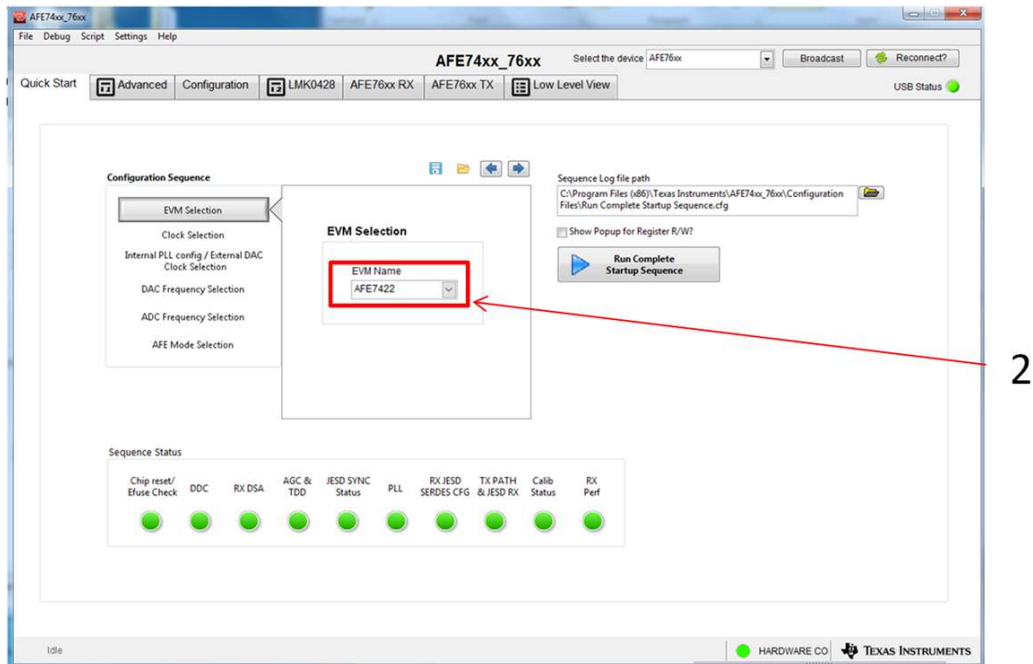

Figure 15. Quick-Start Page
1. Run the AFE74xx EVM _76xx GUI as administrator. The quick-start page shown in Figure 15 appears.
2. Under EVM Selection, verify that the EVM name matches the EVM in operation, shown by label 2 in Figure 15.